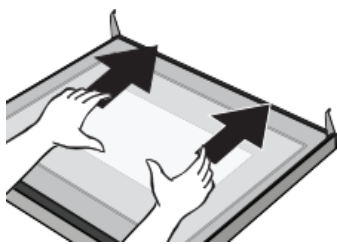

Figure 3
1. Place the door with the top towards you, place your hands on the glass and pull it towards the oven. (Figure 3)